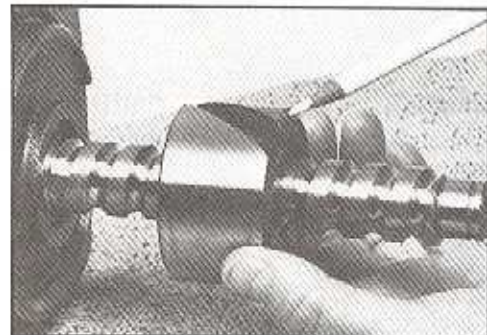

Figure 128
23. If ball nut (25C) is completely disassembled install it onto shaft (25B) so that the end with a large chamfer goes on last. SEE FIGURE 128.